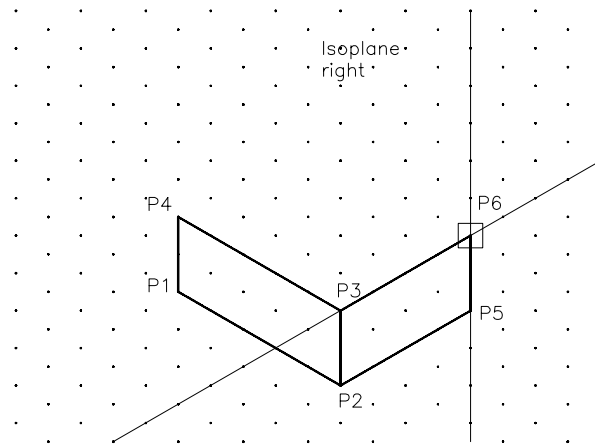

Figure 23-10 Drawing the bottom right face
3. Change the isoplane to isoplane right by pressing the F5 key. Invoke the **LINE** command and draw the lines, as shown in Figure 23-10.